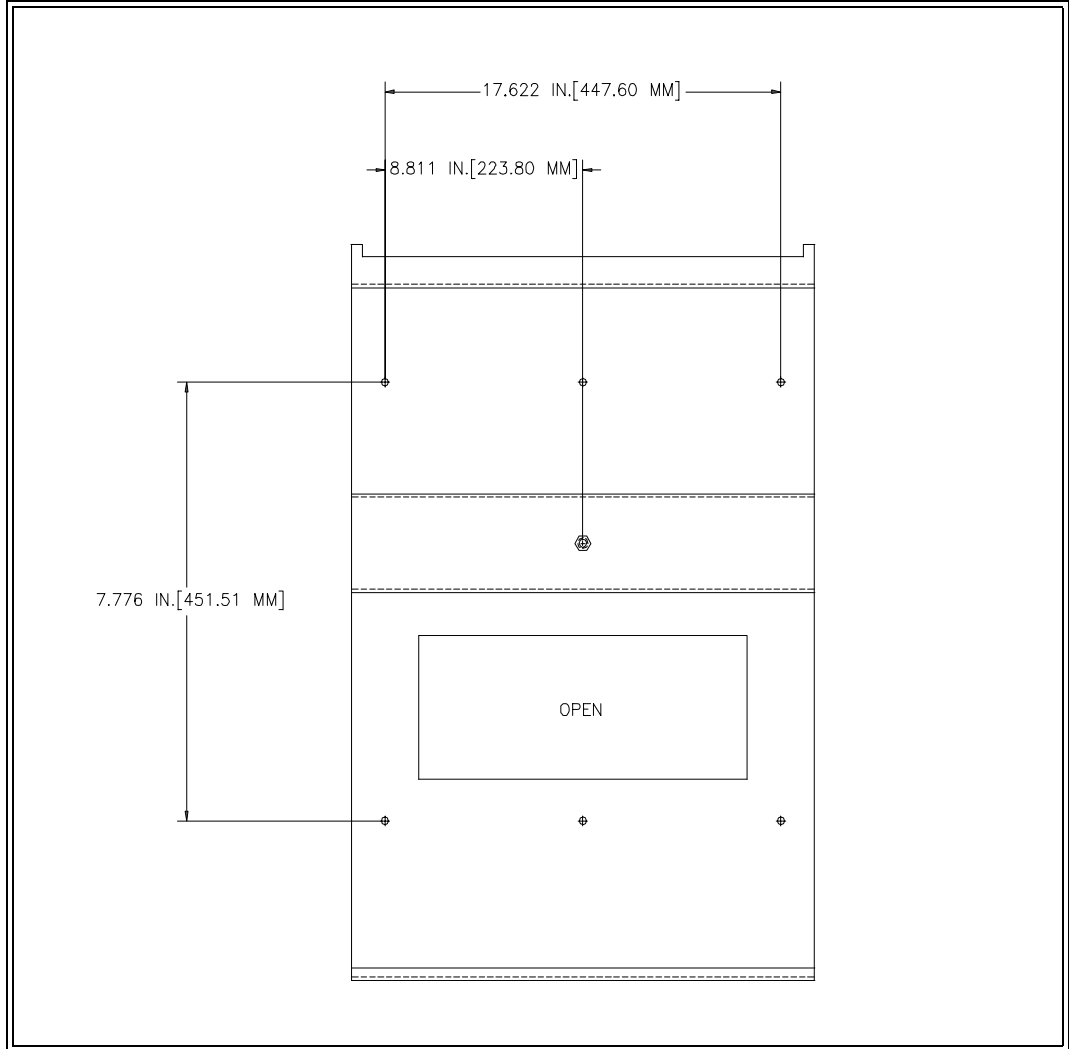

Figure 3-14: Hole placement for the wall mount plate
Step 3 Mount the wall plate to a suitable wall, as detailed in the following note. The plate should be mounted so that the tabs on the top and bottom of the plate face outwards, away from the wall. A sketch detailing hole placement is shown in Figure 3-14 : "Hole placement for the wall mount plate" on page 51.